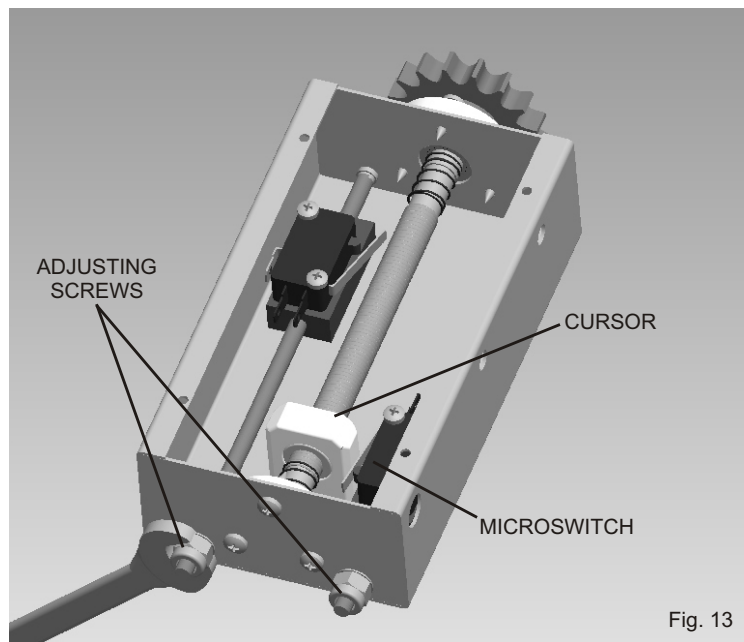

Fig. 13
- act on the adjusting screw so that the microswitch can activate the contact with the cursor (Fig. 13)